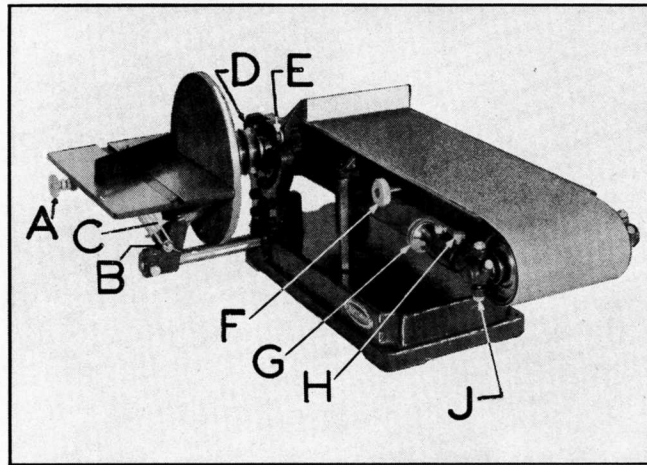

Fig. 1
A micrometer adjustment of the work table is obtained with the knurled knob. (A in Fig. 1). The wing nuts (B) lock the work table support arms at the angle chosen. The screw (C) in the work table support is adjustable and supports the work table when set at 45°. The bolts (D) lock the belt table at any angle up to 90°. After setting the fence square with the belt table clamp with the bolt (E). The knurled lock stud assembly (F) holds the tension which is set with the
Any additional tension changes required can be obtained by moving the adjusting knobs (G in Fig. 1) the same distance on both sides.
After the belt has been given the proper amount of tension, start the sander with the motor. The belt must track in the center of both the idler and drive pulleys. If belt tends to creep to either side loosen the lock screws (H in Fig. 1) and tighten the knob (G) on the side toward which the belt is moving. When belt tracks properly tighten both bolts (H).
screws (D in Fig. 1). Both screws must be tightened with a wrench when the desired angle is reached.
To adjust the table to make a right angle with the disc hold a try square with one leg against the disc and one leg on the table. Screw the knob (A in Fig. 1) in or out until the square rests evenly against both surfaces. Bring the inside nut on the stud against the table and then tighten the second nut securely against the inner nut.